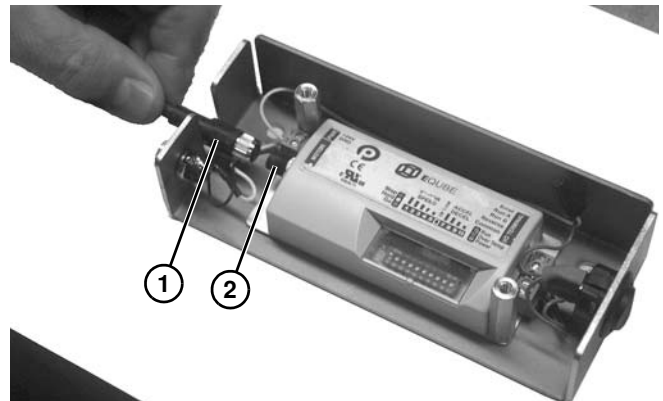

Figure 19
1. Attach end (**Figure 19, item 1**) of motor wiring to threaded end (**Figure 19, item 2**) on controller.